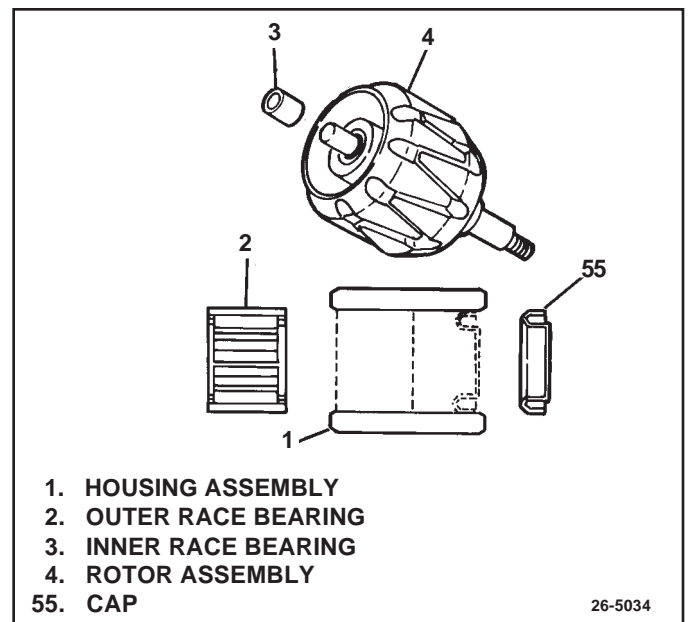

Figure 26. Removing Rectifier End Bearing
15. To remove rectifier end bearing outer race (2) from housing, (See Fig. 26) use small screwdriver at slot to pry cap from housing.
16. If bearing inner race (3) appears to be worn or rough, remove from rotor shaft (See Fig. 26) with a suitable puller.
3. Insert DE bearing (7) (on rotor shaft) into bearing well in drive end frame (6). (See Fig. 26) Bearing (7) will be a snug fit, but should slip in easily when properly aligned. Lubricate outside of bearing very lightly with ball and roller bearing lubricant (1948791) if necessary to facilitate assembly.